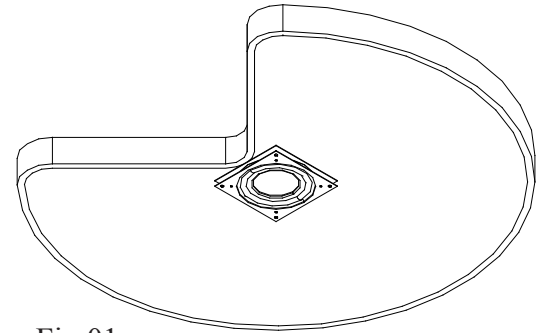

Fig 01
Step 1: Position the T8224 SSusan in the cabinet in the desired position making sure the 4 inch steel bearing top, and bottom, races are aligned (see Fig. 01).